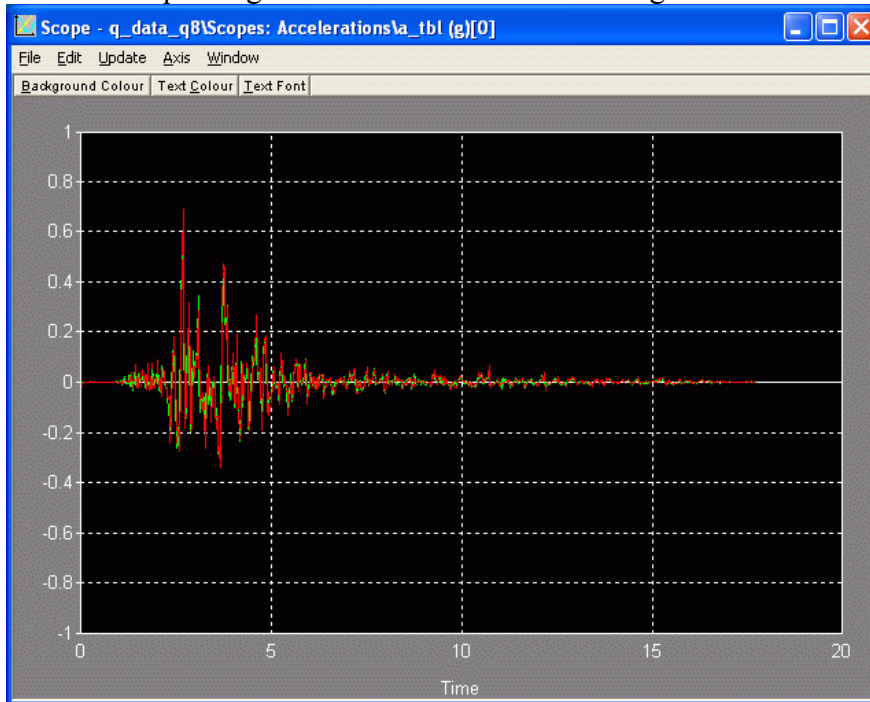

Figure 22: Acceleration measurements plotted in a_tbl (g) scope after running Northridge earthquake.
4. In the WinCon Server window, click on File | Open and select either the $q_kobe_zz.wcp$ or $q_northridge_zz.wcp$ WinCon Project files to run the Kobe or Northridge earthquakes on the table. The projects include the a_tbl (g) scope, depicted in Figure 22 after running the experiment, that displays the desired acceleration, which is the actual recorded acceleration of the tremor, in green and the acceleration measured by the table accelerometer in red. Both accelerations are given in gravitational units, g, and should be similar.
The stage should begin moving back and forth and the accelerations in the a_tbl (g) scope should start plotting. The end result is shown in Figure 22.